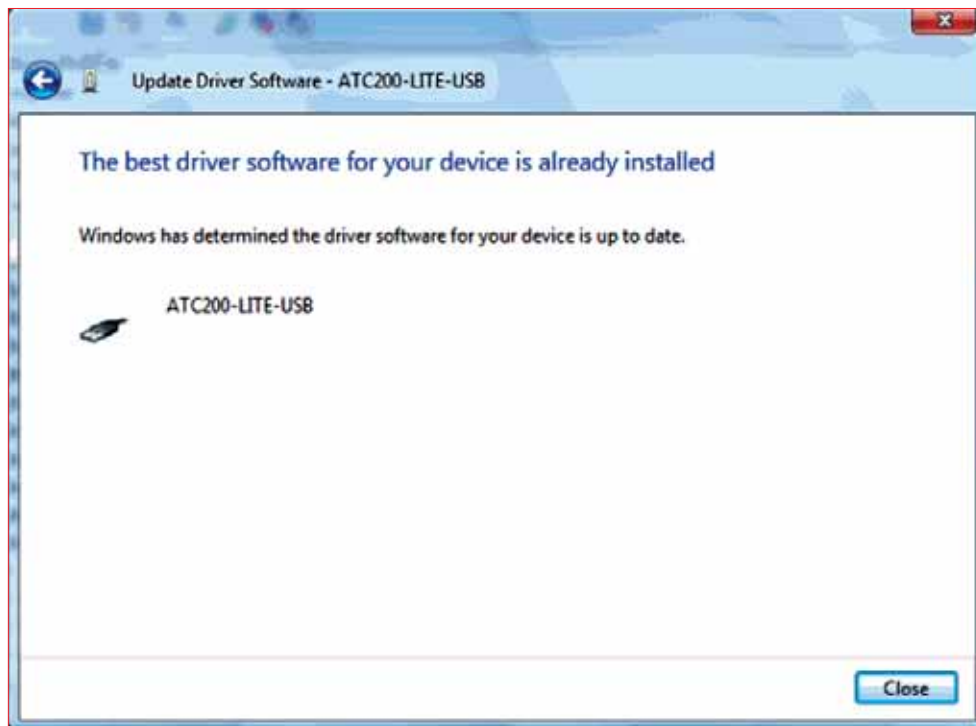

Figure 13-7. Driver Software is Up To Date.
11. Windows will display **Update Driver Software-ATC200-LITE-USB** (Figure 13-7) and your ATC200-LITE-USB is now ready to be used.